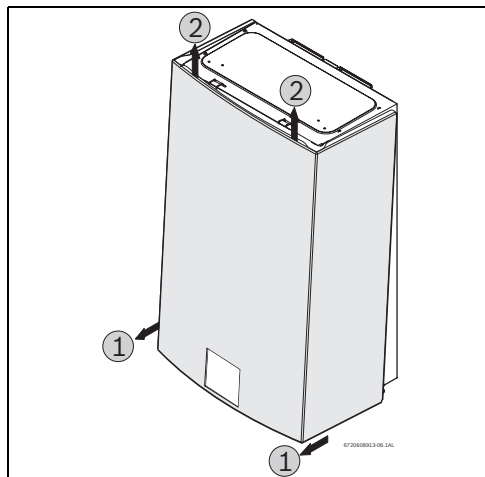

Fig. 24
- Remove front cover, see Fig. 24 .